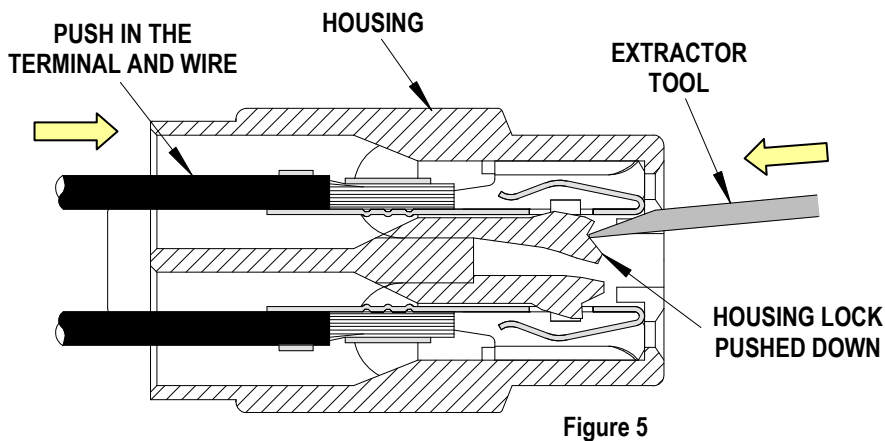

Figure 5
3. While depressing the housing lock, push the terminal back through the connector slot and pull the terminated wire out in the arrow direction. See Figure 5.